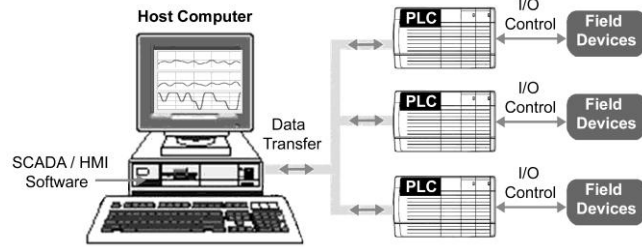

Figure 14-7 SCADA system for question 48.
48. For the SCADA system of Figure 14-7, the host computer 48. _____